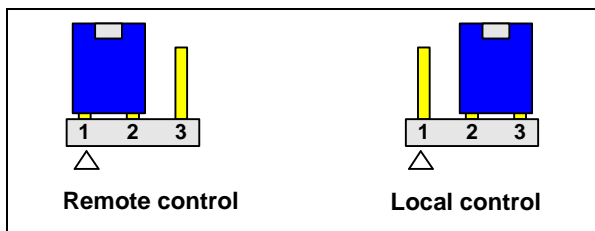

Figure 2-2. Jumper Settings for Remote and Local Control
- Place a jumper on pins 1 and 2 to set the module for Remote control, or pins 2 and 3 to set the module for Local control. See Figure 2-2.